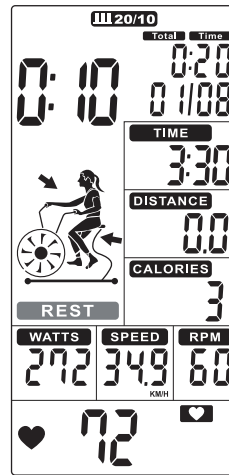
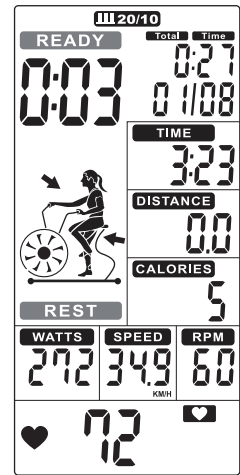

FIGURE 26
FIGURE 27
- The cycle time counts down from 10 to 0 and the word REST blinks once per second along with 10 beeps (Figure 26), while the word READY blinks for the last 3s (Figure 27).